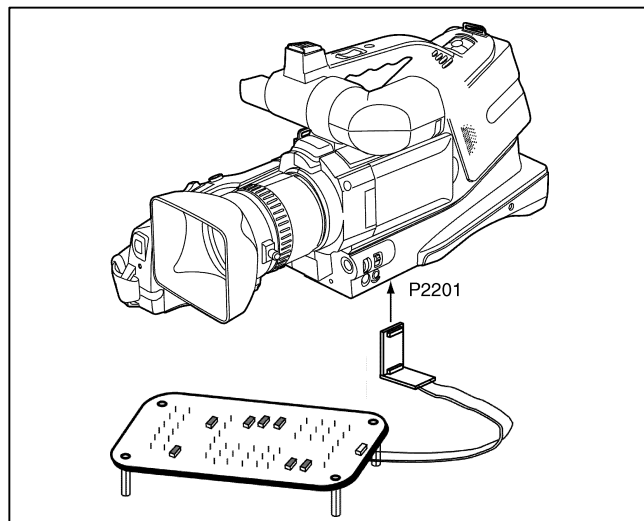

Fig.E5
3. Set the Connector Board with the 30 pin Cables to the unit as shown in Figure E5. Make sure that the direction of the Connection Board is correct as shown in Figure E5.